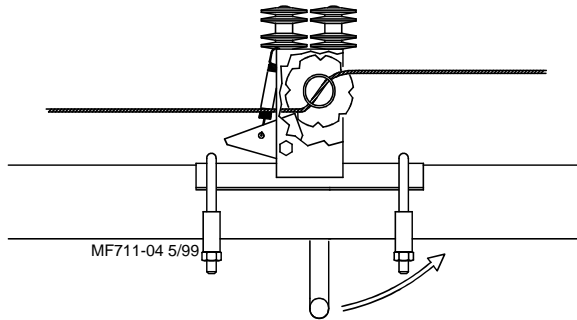

Figure 4. Winch Cable Wrapping around Winch Drum (side drum)
3. Thread half of the cable through the hole in the winch drum. Turn the winch handle clockwise two revolutions to wind some cable onto the winch drum. See **Figure 4**.